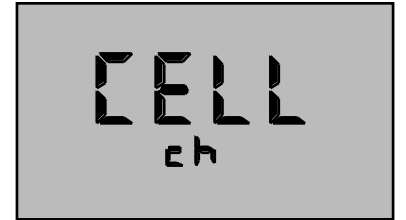

Figure 2
3. Press the **(MR)** key until "CELL ch" appears. Fig. 2.